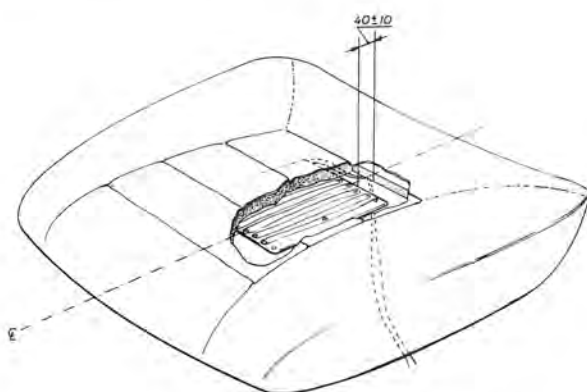

Fig. 8-50. Measurements for installing wiring in seat cushion
7. Locate the heater wires so they protrude at the rear right end of the cushion about 170 mm (6.7") from the rear of the cushion, see Fig. 8-50.